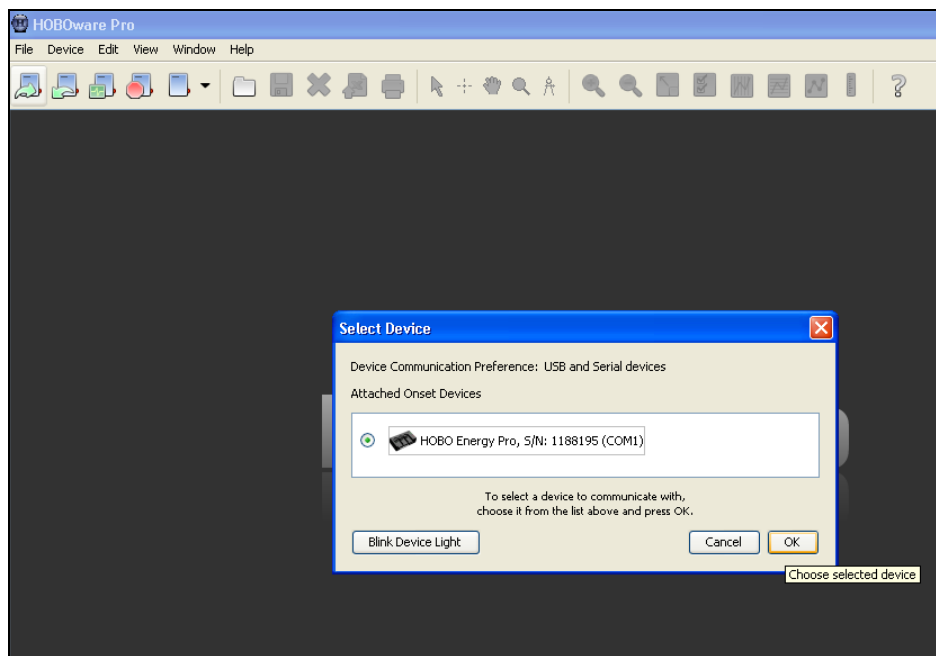

Figure 5. Select the Data Logger
4) In the window that opens up, select the Data Logger and push 'Ok'. See Figure 5 below. It may take a few seconds for the software to recognize the unit.